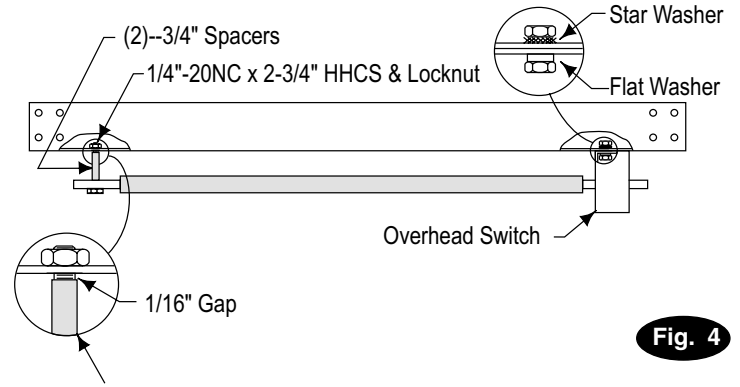
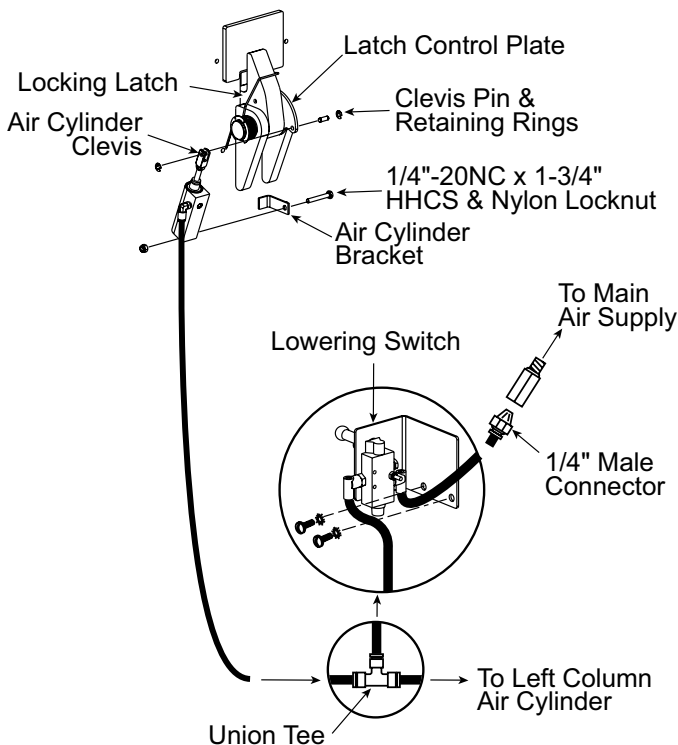

Fig. 4
Fig. 12
2. Lift Height: See Fig. 4 for overall lift height of each specific lift model. Add 1" min. to overall height to lowest obstruction.
6. Mount switch assembly towards power unit column as shown, Fig. 4, using (2) 1/4"-20NC x 3/4" lg. HHCS, nuts and Star Washers.
For three phase lifts: Remove Limit Switch cover, Fig. 6b. Insert Actuator end of Switch Bar into slot located inside Limit Switch, Fig. 6c. A small amount of silicone sealant on the lower part of the actuator will help hold it in place. Insert 1/4"-20NC x 2-3/4" HHCS through pivot hole in end of Switch Bar. NOTE which hole to use, Fig. 12. Then secure HHCS and Switch Bar to overhead as shown, using (2) 3/4" spacers and 1/4"-20NC Locknut. Tighten Hex bolt leaving 1/16" gap between the spacer and the overhead assembly, Fig. 4. Replace limit switch cover.
- A) To install cylinder, first slip dampening spacer over rod with rod in retracted position as shown below, Fig. 12.
- D) Screw Bracket Clevis onto shaft, position, and tighten locknut securely, Fig. 12.
- H) Slide one side of lower Pivot Pin (pre-installed & fixed in cylinder) into one half of the column Pivot Bracket. Install Pivot Bracket into column using (2) 1/4"-20NC x 3/8" lg. PHMS, Fig. 12.
- L) Mount lowering valve and bracket to column using (2) 5/16"-18NC x 3/8" lg. PHMS, Fig. 12.